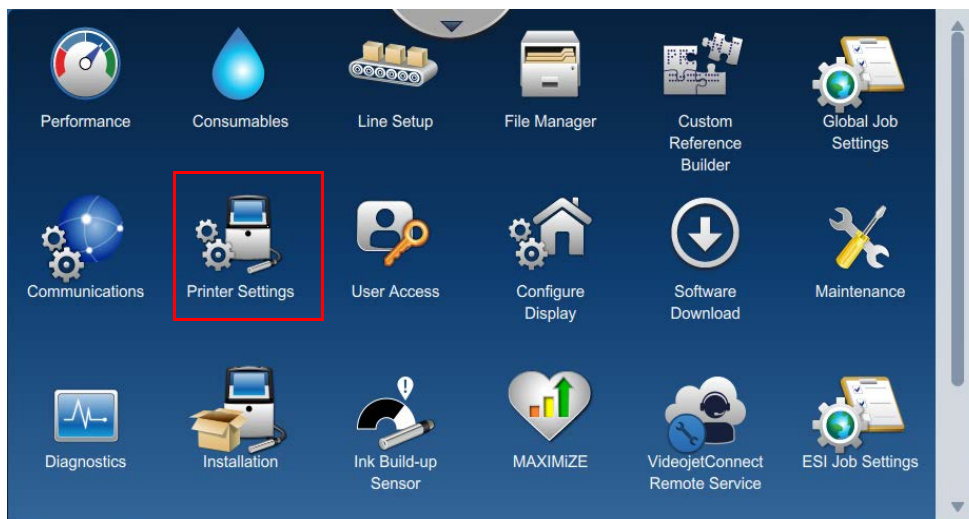

Figure 7-8: Tools Screen
1. Navigate to Tools screen and touch *Printer Settings* button as shown in Figure 7-8.